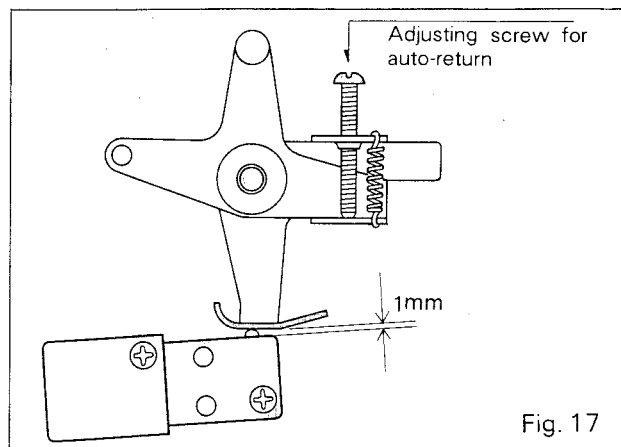

Fig. 17
- (1) Make sure the tone arm fixing plate is properly installed as shown in Fig. 17.
- (2) Put on a record and let the stylus drop slightly outside the end groove or 65 – 70 R from the center of the turntable. When the record ends, make sure the tone arm automatically returns from any of the following positions:
- (3) If the tone arm does not automatically return from all of the above positions, turn the adjusting screw in Fig. 17 to adjust the tone arm return position. Clockwise turning of the screw brings the return position close to the center of the turntable and counter-clockwise turning of the screw moves the return position away from the center of the turntable.
- Yes: Rotate adjusting screw (Fig. 17) of tone arm fixing plate counter-clockwise.
Rotate adjusting screw (Fig. 17) of tone arm fixing plate counter-clockwise.
Rotate adjusting screw (Fig. 17) of tone arm fixing plate clockwise.
- Yes: Adjust the clearance between the knob of microswitch and tip of tone arm fixing plate to 1 mm. (Fig. 17)